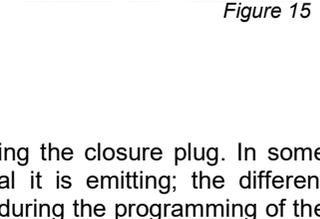

Figure 15
- F. Complete assembly of the chain terminal with the safety clip inserted onto the provided pin Ø4x32 in median position (see fig. 15).